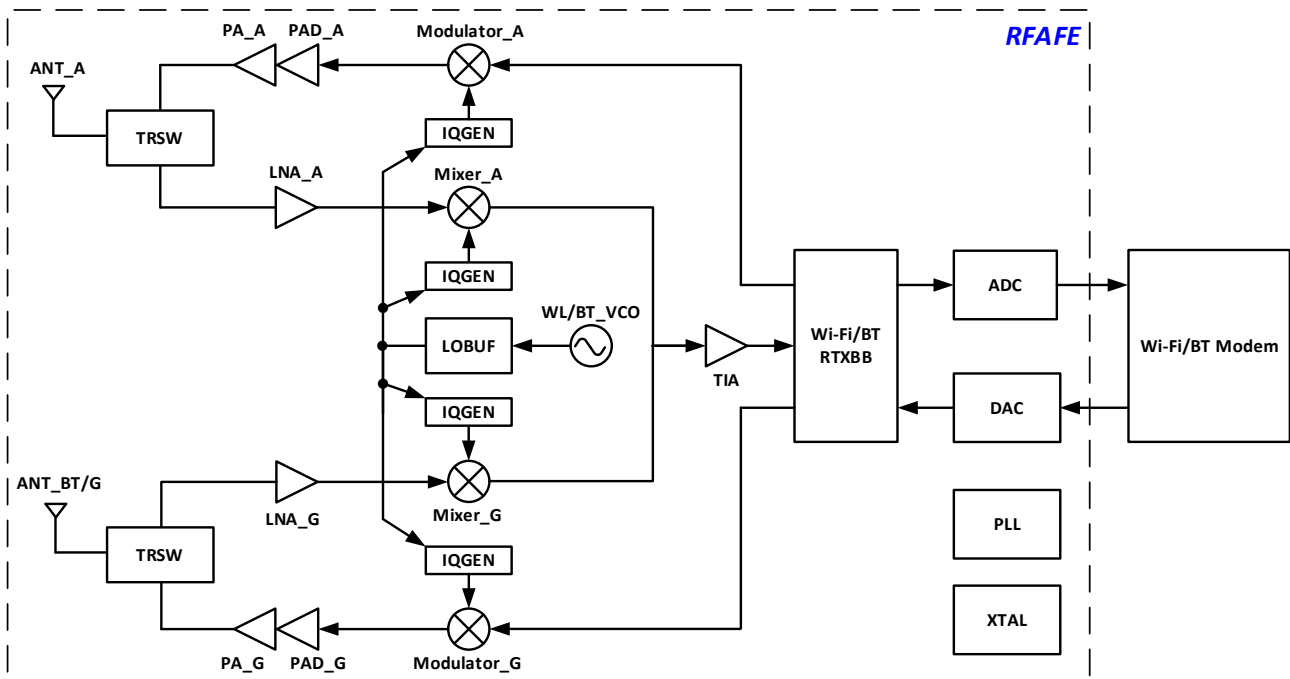

Figure 3-4 RF block diagram
The Radio Frequency (RF) block diagram of RTL8711Dx, including WLAN and BT modem, is given in Figure 3-4.